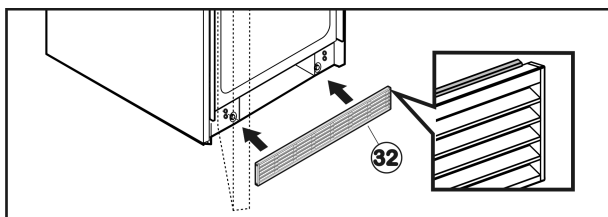

Fig. 37
- Fit lower ventilation grille Fig. 37 (32) flush with the floor such that the rubber lip is at the top. It is held in place via magnets.